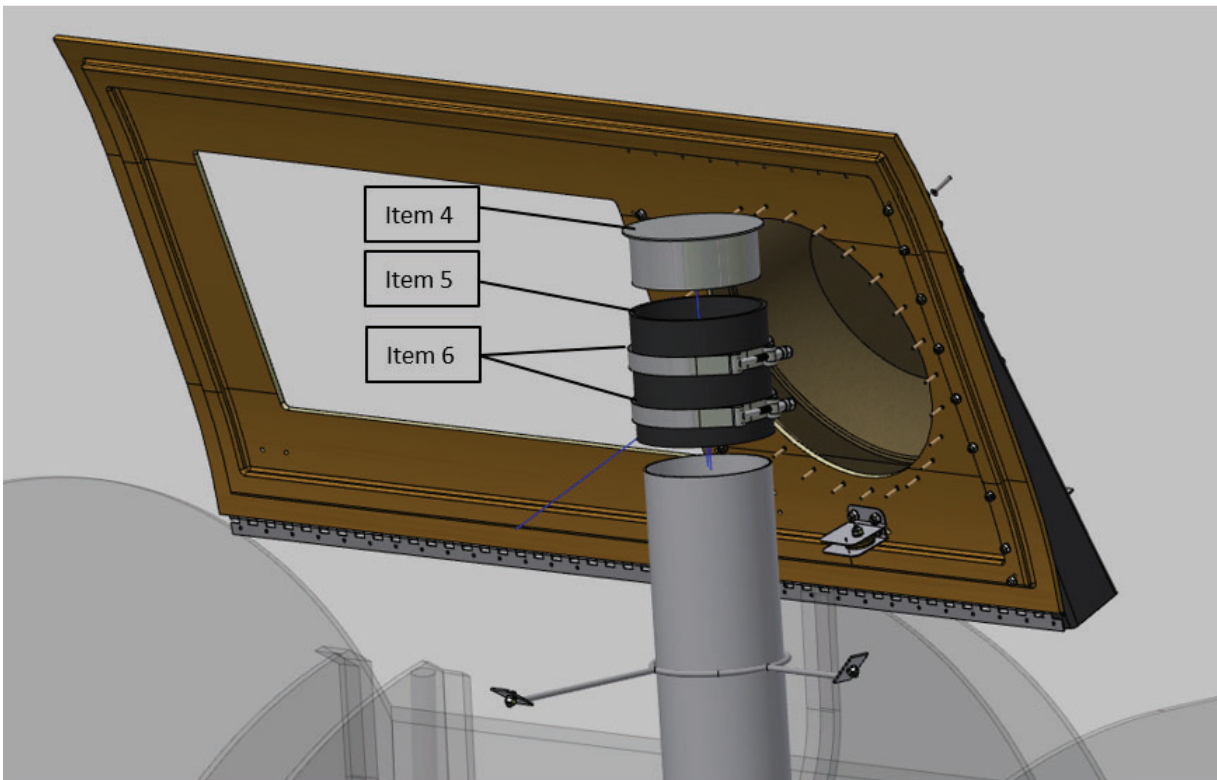

Figure 5 - Plug Installation on Hopper Vent
10. Pre-assemble the plug (item 4) into the hose coupling (item 5) using pro-seal with bolt hose clamp (item 6) to make assembly. Install the assembly from the previous step onto the vertical vent pipe using pro-seal during the installation. (See Figure 5).
10. Remove the vertical vent pipe cap. (See Figure 5).